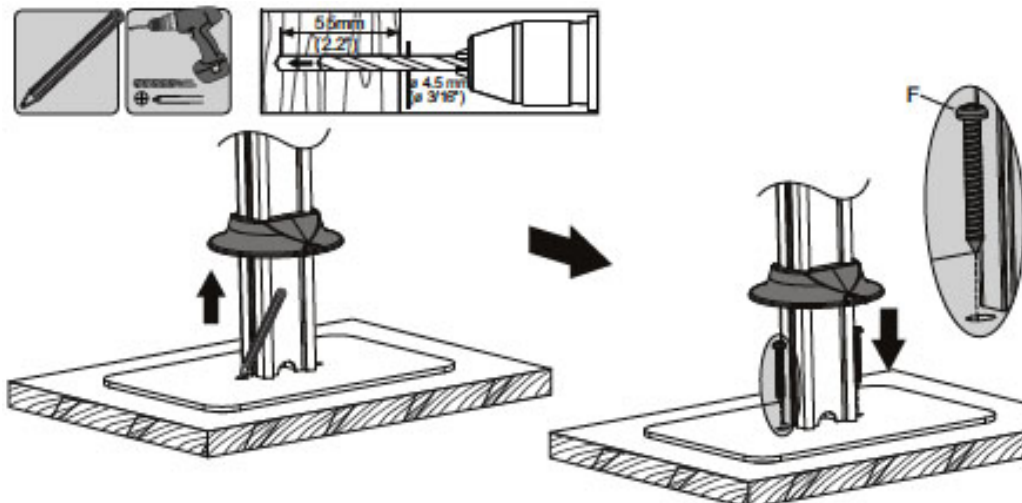

Figure 3B
1. Place the stand in the desired position. Lift up the decorative cover and mark the left and right positions of the mounting holes, see **Figure 3B**.
5. For each location, insert **Screw (F)** into the wood countertop. Tighten each screw with a Phillips screwdriver by turning it clockwise until fully tight.